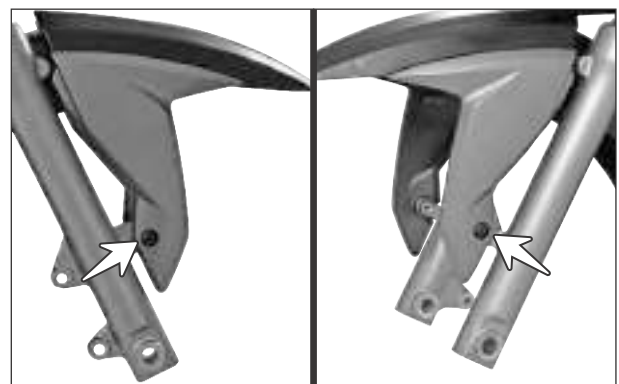

Fig. 6.46
- Remove the CRR pan head screws (M6x16 - 2 nos.) from the fender front L & R.(Fig. 6.46)